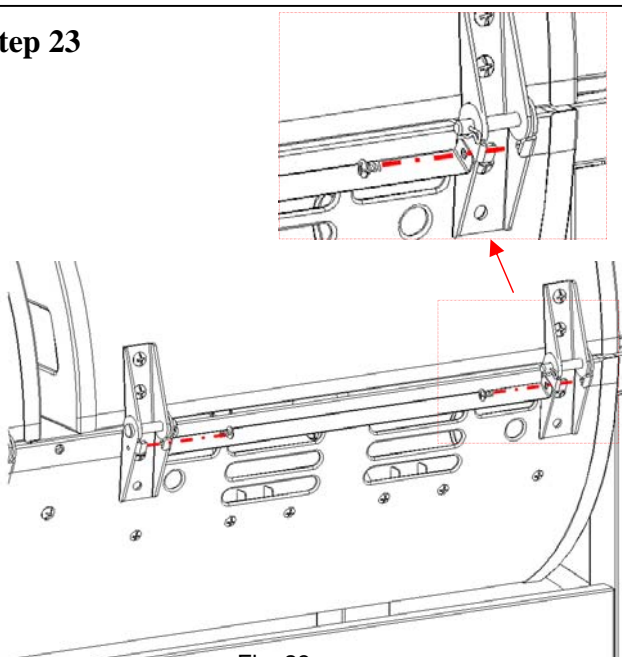

Fig. 23
*Locate:* Windscreen, (2) M4x8 tapping screws
*Procedure:* Attach the Windscreen to the Hinge Assemblies installed on the Gas Cabinet using (2) M4x8 tapping screws as shown as Fig. 23.